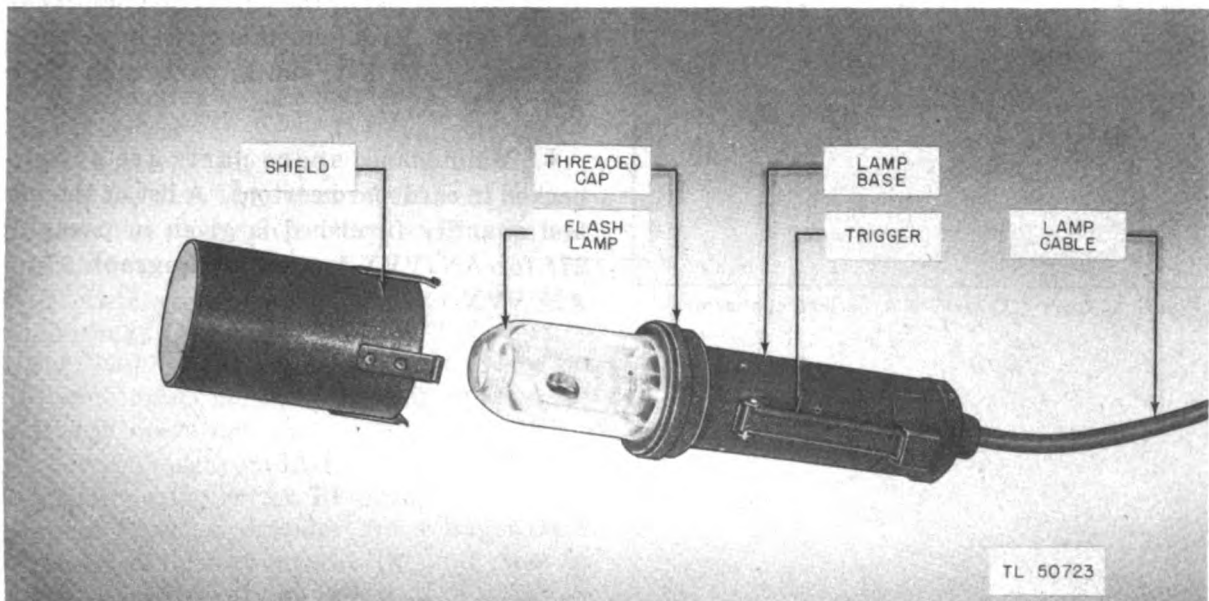
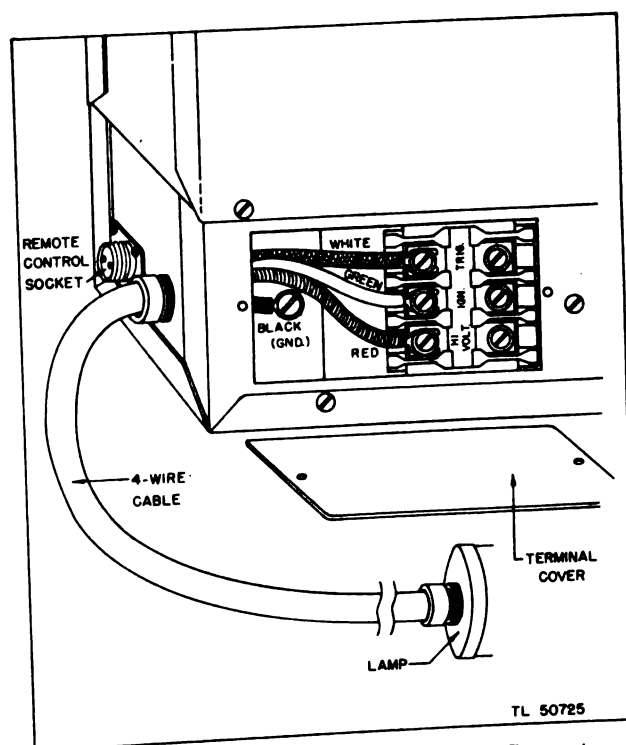

Figure 4. Identification Lamp VS-1/VVX-1.
Figure 6. Lamp terminal block, Voltage Converter PP-49/VVX-1 or PP-50/VVX-1X.
Identification Lamp VS-1/VVX-1 consists of a gaseous-discharge flash lamp and an ignition coil, both mounted in a tubular metal case (fig. 4). The flash lamp has a clear glass lens and fits into a plug-in type socket, where it is held in place by a threaded cap. A trigger switch is mounted on the base of the identification lamp (fig. 4). A shield is provided to limit the lamp signal to one direction. Identification Lamp VS-1/VVX-1 is equipped with a 4-wire cable coded as follows: black for ground connection, green for ignition connection, red for high-voltage connection, and white for trigger connection (figs. 6 and 16).
g. Connect the lamp cable to the terminal block (fig. 6) as follows:
(1) Connect the black wire to the ground terminal (marked GND on the grounding-terminal bracket).
- (2) Connect the white wire to the trigger terminal (marked TRIG on the terminal block).
- (3) Connect the green wire to the ignition terminal (marked IGN on the terminal block).
- (4) Connect the red wire to the high-voltage terminal (marked HI-VOLT on the terminal block).